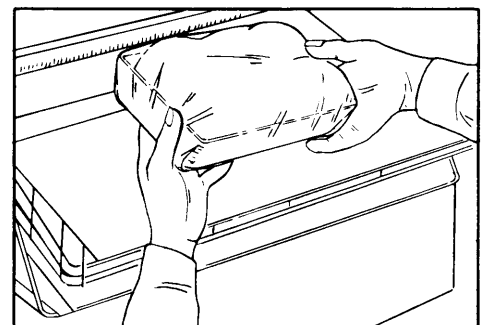

Fig. 7
6. Place package briefly on hot plate, stretch film over the sides and fold the excess under the package (Fig. 7).